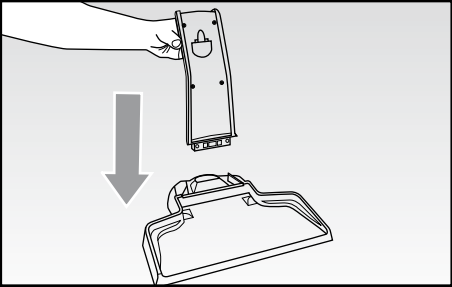

Fig. 4
- Assemble the recharging base (G) by positioning the upper side (H) (Fig. 4).